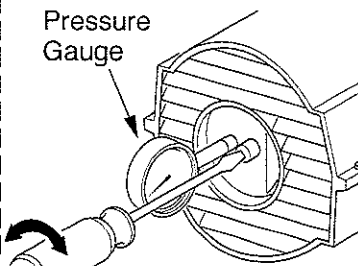

Figure 17 - Adjusting Pump Pressure (40/50/55/60/70 Models Shown)
- Adjust pressure. Turn relief valve to right to increase pressure. Turn relief valve to left to decrease pressure. See specifications correct pressure for each model (see Figure 17).